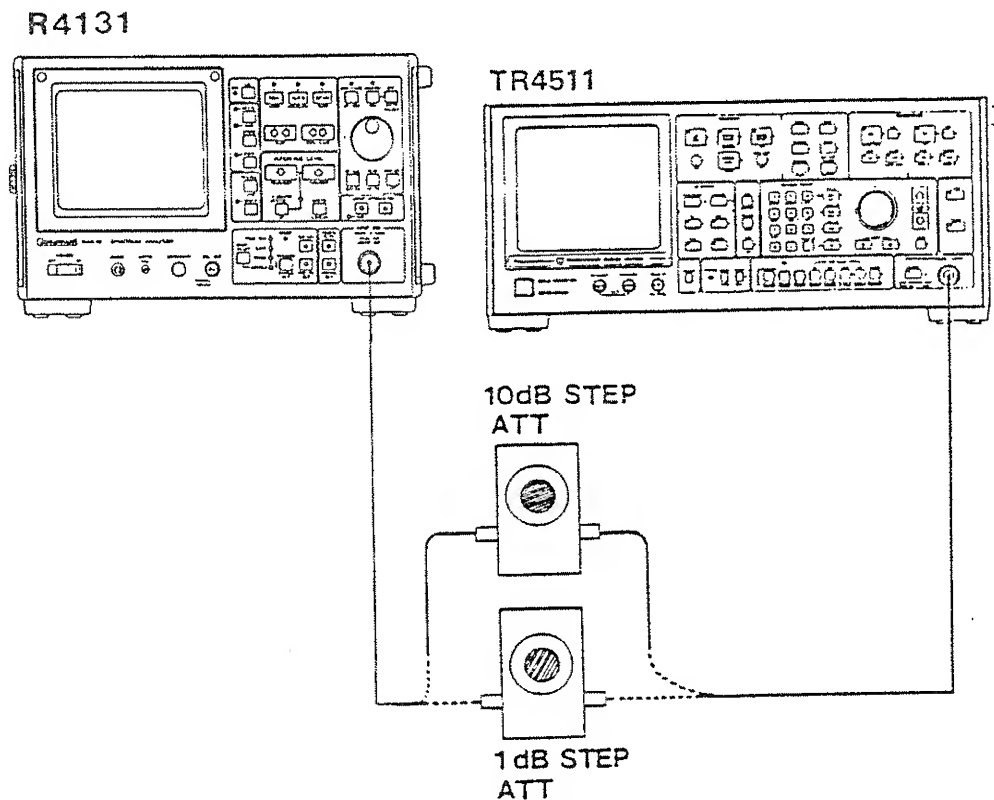

Figure 11-16 LOG/LIN Linearity Test Setup
② Set the output frequency of the synthesized signal source to 200 MHz (CW), -10 dBm, and connect the synthesized signal source to the spectrum analyzer INPUT connector using attenuators as shown in Figure 11-16.